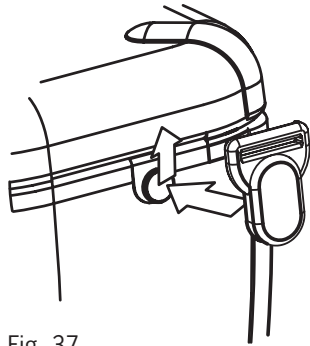

Fig. 37
Correct assembly is shown in Fig 37, 38 and 39. By hanging the instrument round the neck, both hands will be left free for testing.
1. Attach the Buckle to the KT64 as shown in Fig.37.